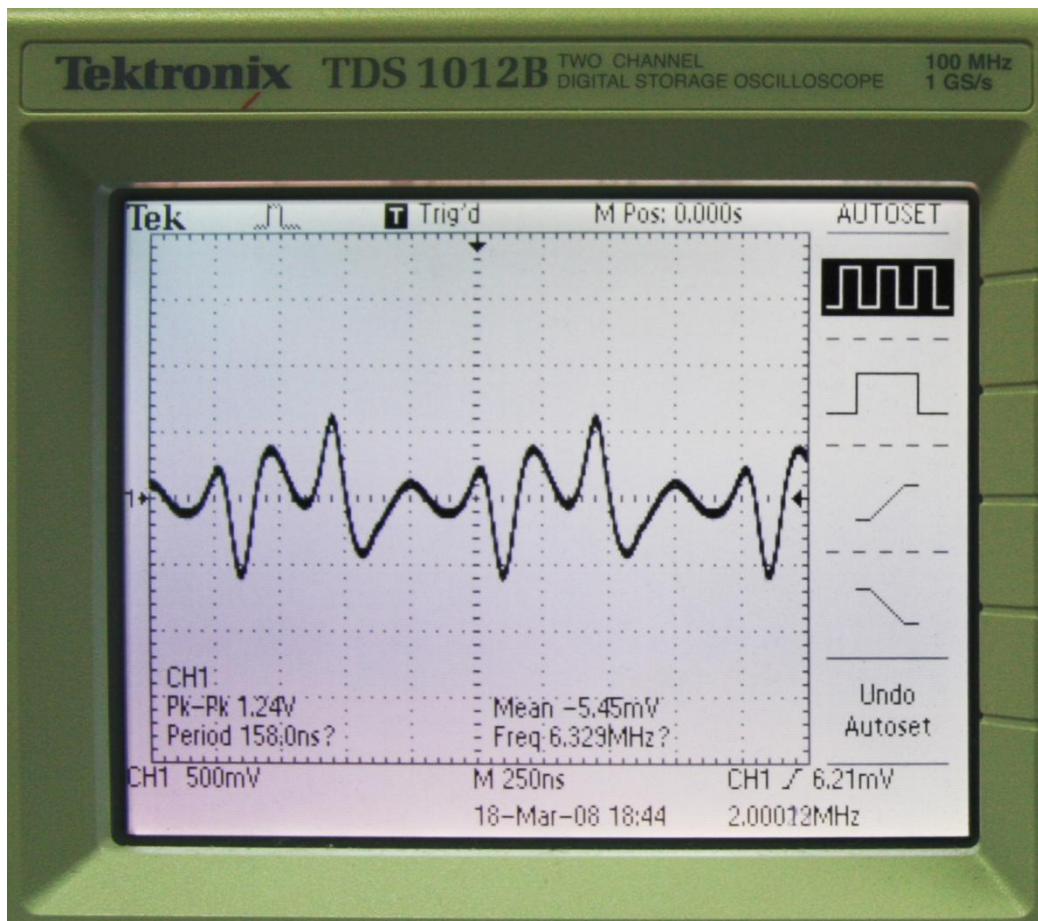

Figure 4-2 Pattern generated from DAC Channel-B is displayed on an oscilloscope
1. Connect the ADA-HSMC to DE3, as shown in **Figure 4-2**.